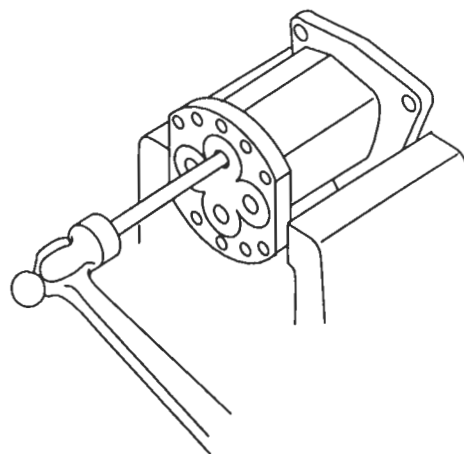

Figure 6. Removing Oil Seals
7. If the oil seals need replacing, remove them with oil seal remover J 1508-13 (Figure 6.) Clamp the pump body in a bench vise and tap the end of the tool with a hammer to remove the outer and inner seals.